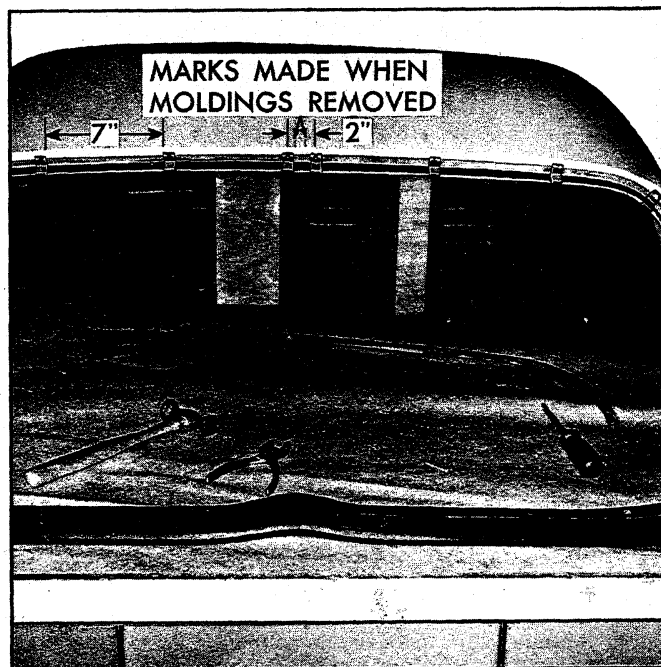

Fig. 86—Installing Reveal Molding Retainers
2. Install twelve new upper reveal molding retainers using mark made when removing reveal moldings as guide. The two middle retainers should be 2" center to center, those remaining should be approximately 7" apart as shown in Figure 86.